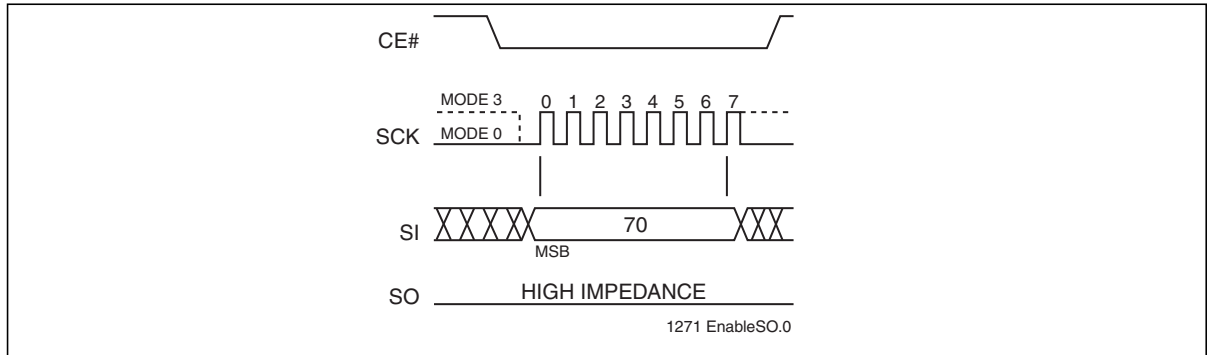

Figure 8: Enable SO as Hardware RY/BY# During AAI Programming
The Hardware End-of-Write detection method eliminates the overhead of polling the Busy bit in the Software Status Register during an AAI Word program operation. The 8-bit command, 70H, configures the Serial Output (SO) pin to indicate Flash Busy status during AAI Word programming. (see Figure 8) The 8-bit command, 70H, must be executed prior to initiating an AAI Word-Program instruction. Once an internal programming operation begins, asserting CE# will immediately drive the status of the internal flash status on the SO pin. A ‘0’ indicates the device is busy and a ‘1’ indicates the device is ready for the next instruction. De-asserting CE# will return the SO pin to tri-state. While in AAI and Hardware End-of-Write detection mode, the only valid instructions are AAI Word (ADH) and WRDI (04H).